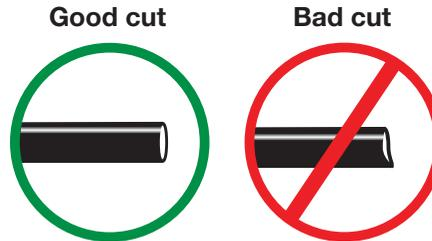

fig. 15
1. Cut the air line in half. Make clean, square cuts with a razor blade or hose cutter (Fig. 15). Do not use scissors or wire cutters.
- a. Check the air line connection by deflating the spring and removing the line by pulling the collar against the fitting and pulling firmly on the air line. Trim 1" off the end of the air line. Be sure the cut is clean and square (see Fig. 15). Reinsert the air line into the push-to-connect fitting.